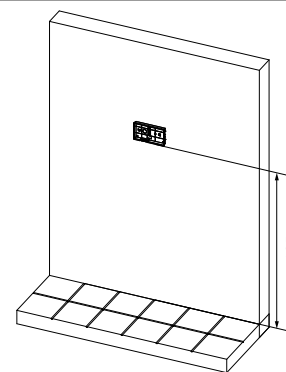
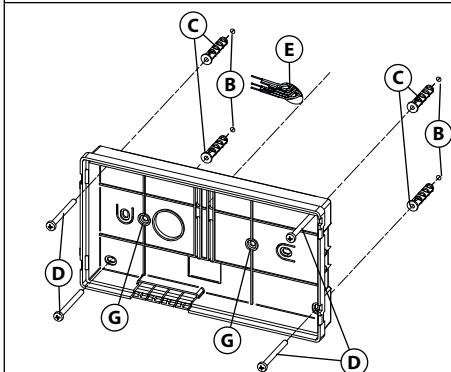

Fig. 3
Fig. 4
- Put the base of the unit on the wall at approx 135cm from the finished floor (Fig. 3) to match the points for the fixing holes (B) (Fig. 4) remembering that the wires (E) (Fig. 4) must be fed through the large hole (F) (Fig. 4). If you use the flush mounting box 503, embed it into the wall vertically at approx. 140cm from the finished floor and the base.
- Following Fig. 4, make the holes (B), insert the wall plugs (C) and fix the base with the screws (D) feeding the wires (E) through the hole (F). If you have used the box 503, fix the base to the wall through the holes (G) using the screws (D).